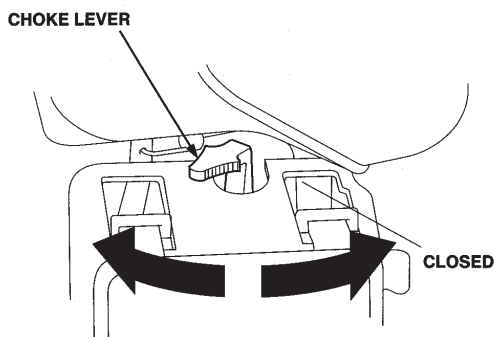

Figure 10. Engine Choke Lever (Closed)
2. Place the *choke lever* (Figure 10) in the "CLOSED" position if starting a *cold* engine.